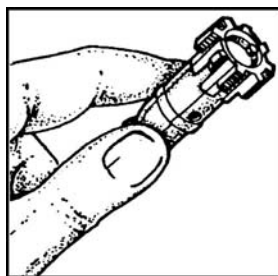

Figure 071-311-2025-26. Holding the extractor pin in
- d. Slide the bolt into the carrier until the bolt cam pin hole in both the bolt carrier and the bolt are aligned (figure 071-311-2025-27).